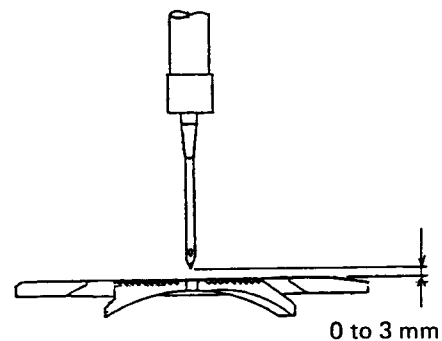

Fig. 22
- (1) The position for the standard feed timing is where the needle tip is approximately 0 to 3 mm from the upper surface of needle plate when the feed dog is risen by turning the balance wheel and the teeth of feed dog become flush with the upper surface of needle plate. See Fig. 22.